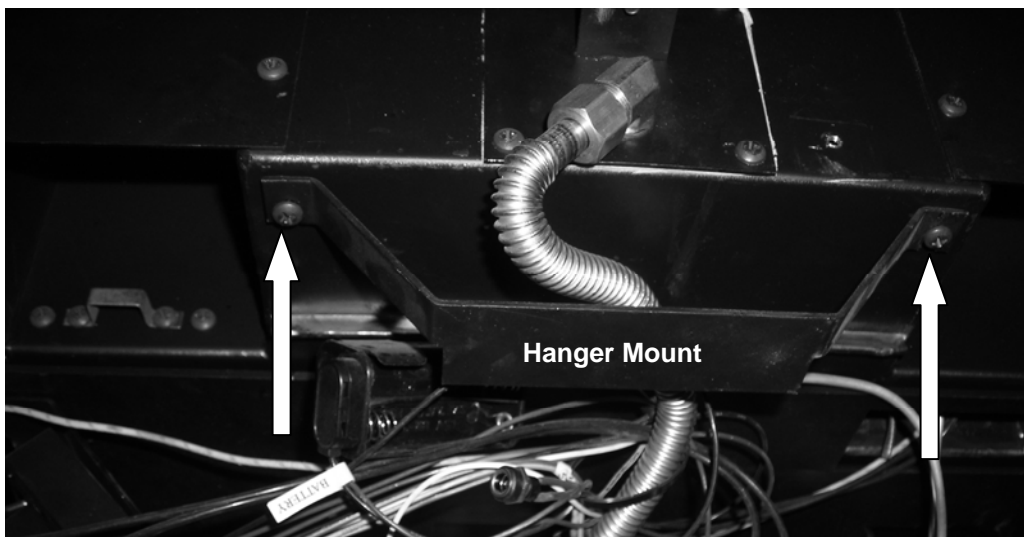

Figure 4 Blower Hanger Mount
- 12) **Mount the Blower Assembly to the Stove.** Locate the two 8-32 Phillips screws (see Figure 4) on the bottom of the stove that will attach the hanger mount to the stove bottom. Loosen, but do not remove these screws. Properly position the hanger mount as shown in Figure 4 and secure it by tightening the screws.